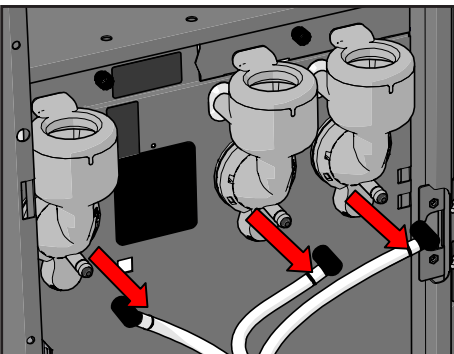

Figure 42.
8. Disconnect the outlet hose from the mixers (see Figure 42).